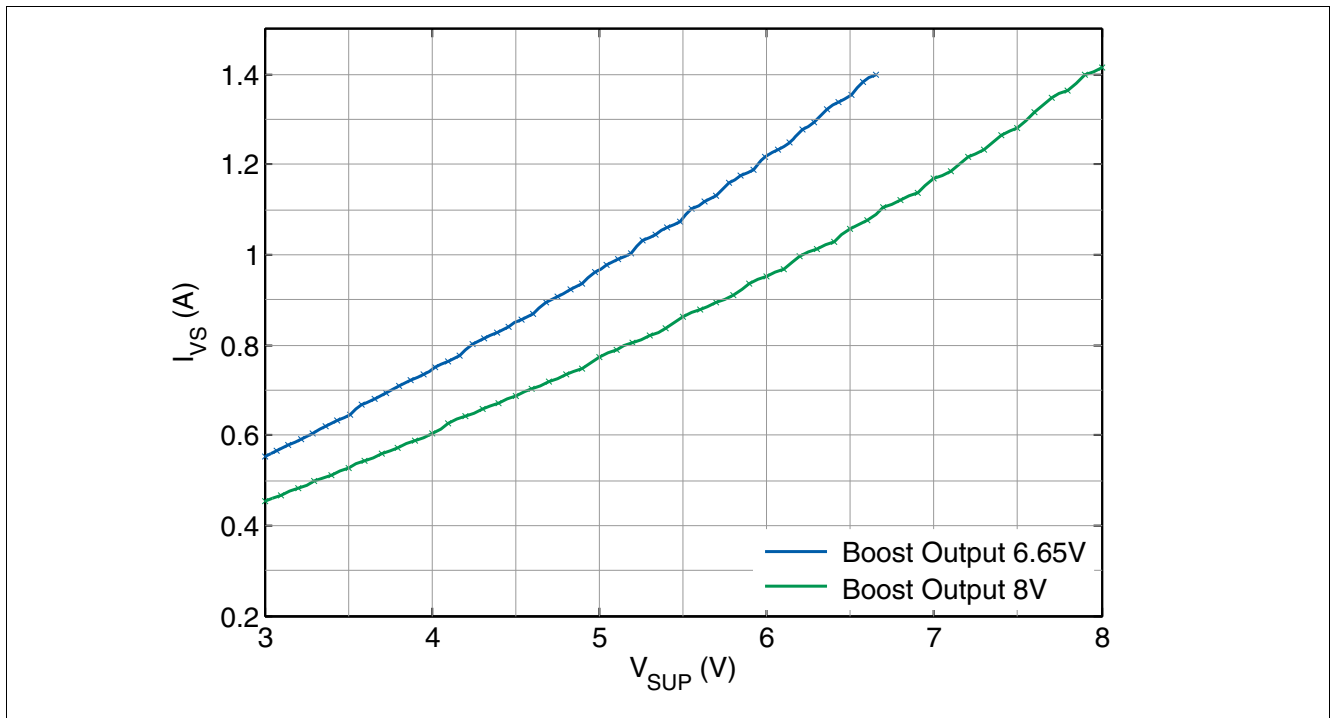

Figure 13 Maximum DCDC Boost current capability versus VSUP(TLE9271..3QX version).
- 3) Values verified in characterization with Boost converter specified in Chapter 15.1. Not subject to production test; specified by design. Refer to Figure 13 for additional information.
Note: Figure 13 is based on simulation results (specified by design), with Boost converter external components specified in Chapter 15.1.